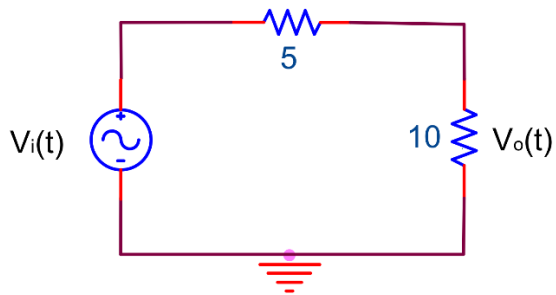

Figure 4.14
2. Simulate Figure 4.14. Ensure that the voltages and currents are displayed on the circuit; take a screen shot. Compare these values with your calculations.